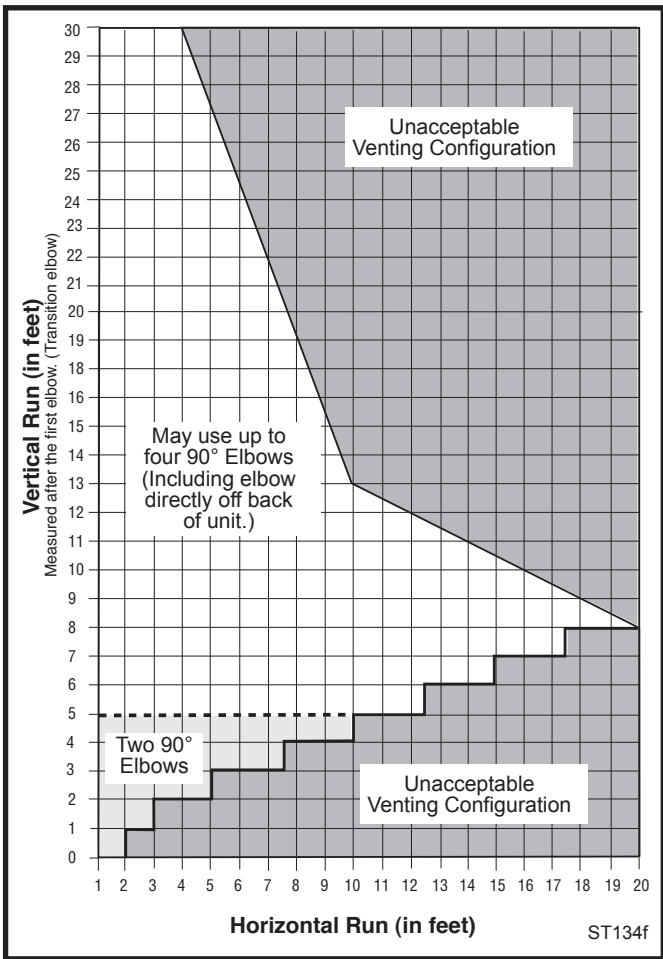

Fig. 7 Horizontal vent termination window.
Except for straight-through the wall vent installations. The vent must rise vertically a minimum of 24" (610mm) after the first elbow directly off the back of the unit, before the next elbow. The horizontal run may extend up to 20' (6m) and include a vertical rise of up to 40' (12m). (Fig. 7) Horizontal termination must also meet the criteria shown in Figures 11 and 12.
- Approved vent systems must terminate above and including the heavy line in Figure 7.